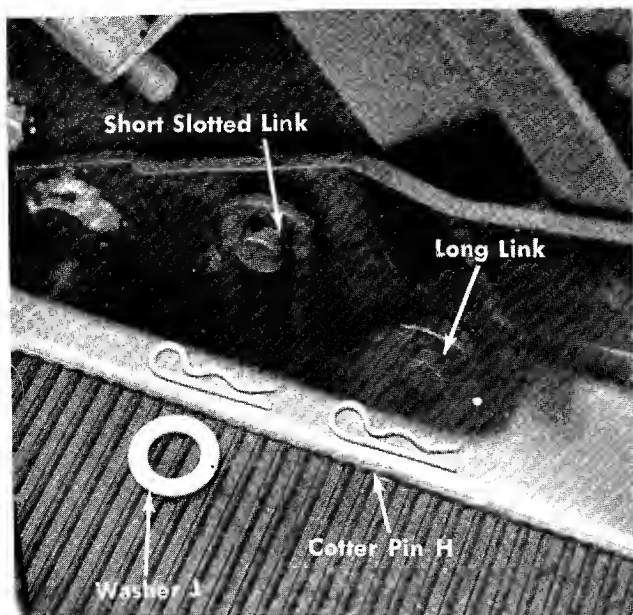

FIGURE 9. CENTER LINK ASSEMBLY
- d. Place the two center links through the hole in the foot rest and attach the short slotted link to the pin in the lift arm and attach the long link to the pin in the frame. See figure 9.
- e. Place washer "J" over the short slotted link and secure both links with cotter pins "H". See figure 9.